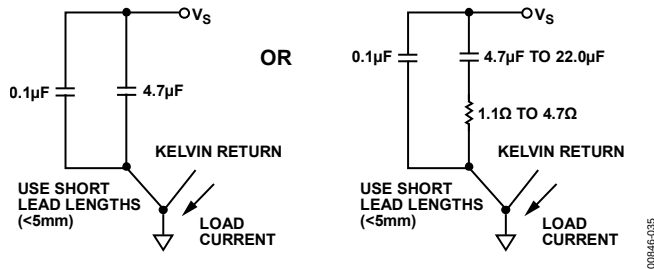

Figure 36. Recommended Power Supply Bypassing
*USE THE POWER SUPPLY BYPASSING SHOWN IN FIGURE 36.
Taking full advantage of the very wide bandwidth and dynamic range capabilities of the AD797 requires some precautions. First, multiple bypassing is recommended in any precision application. A 1.0 μF to 4.7 μF tantalum in parallel with 0.1 μF ceramic bypass capacitors are sufficient in most applications. When driving heavy loads, a larger demand is placed on the supply bypassing. In this case, selective use of larger values of tantalum capacitors and damping of their lead inductance with small-value (1.1 Ω to 4.7 Ω) carbon resistors can achieve an improvement. Figure 36 summarizes power supply bypassing recommendations.